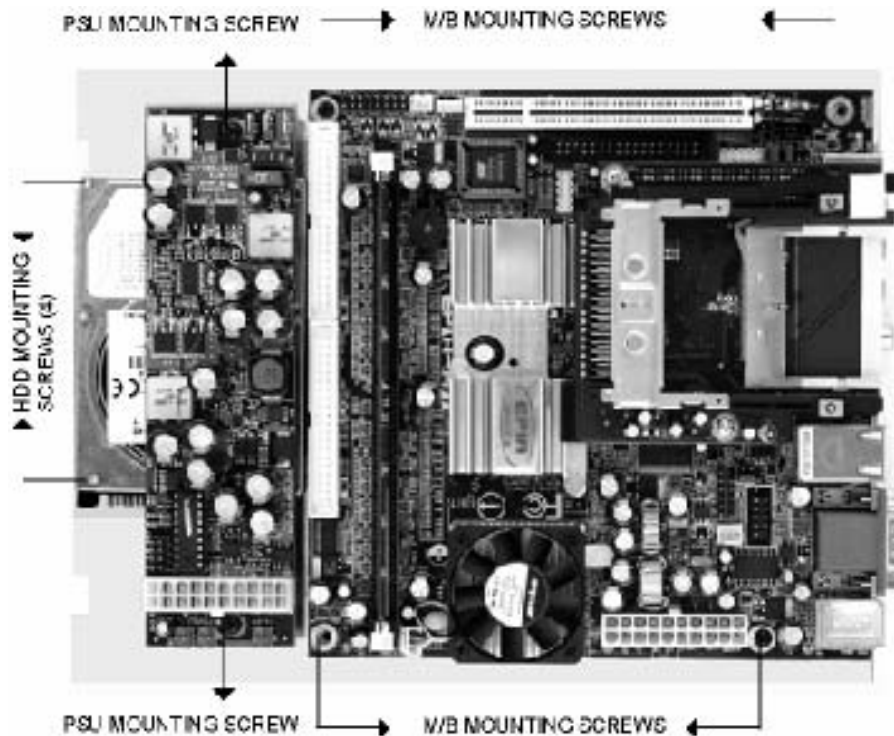

Figure 1.0
- 1) Install the motherboard on the base plate using four screws. (See figure 1.0)
- 4) Attach the M1-ATX or M2 ATX power supply over the hard drive, using the remaining standoffs. (See figure 1.0)